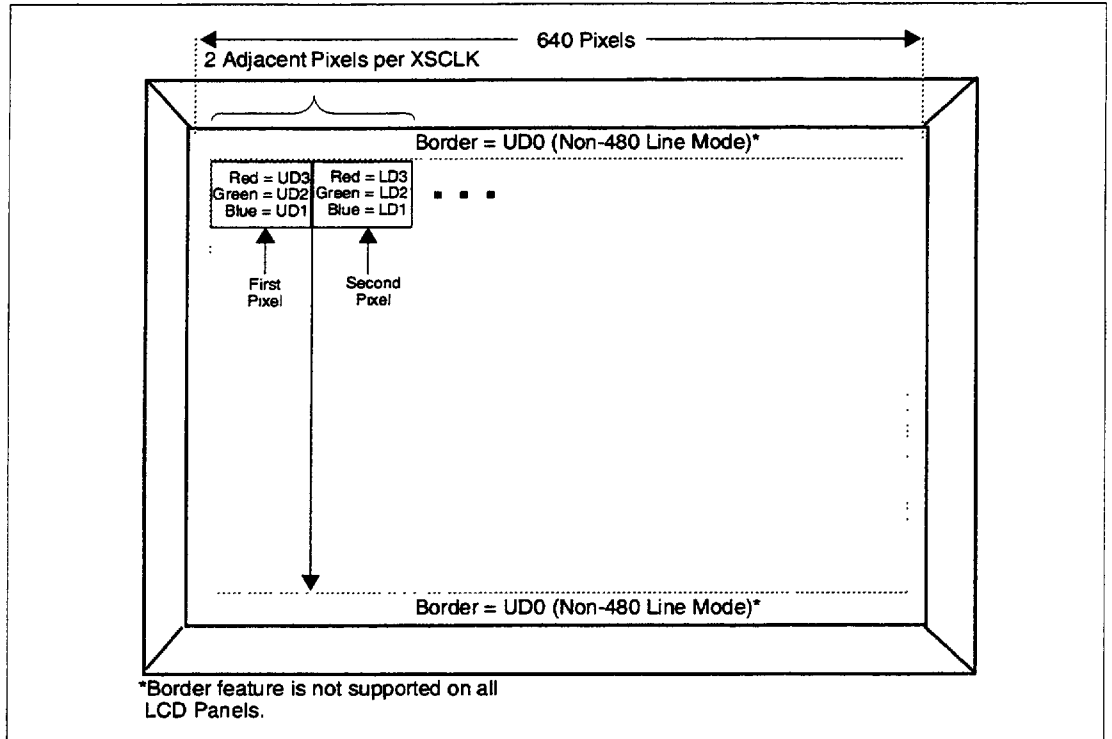

FIGURE 26-7. SINGLE-PANEL MULTIPLEXED COLOR STN LCD DATA ORGANIZATION
- Single-Panel Multiplexed Color STN LCD Data Organization (Figure 26-7)
- Calculating the RSET Value (Figure 26-7)